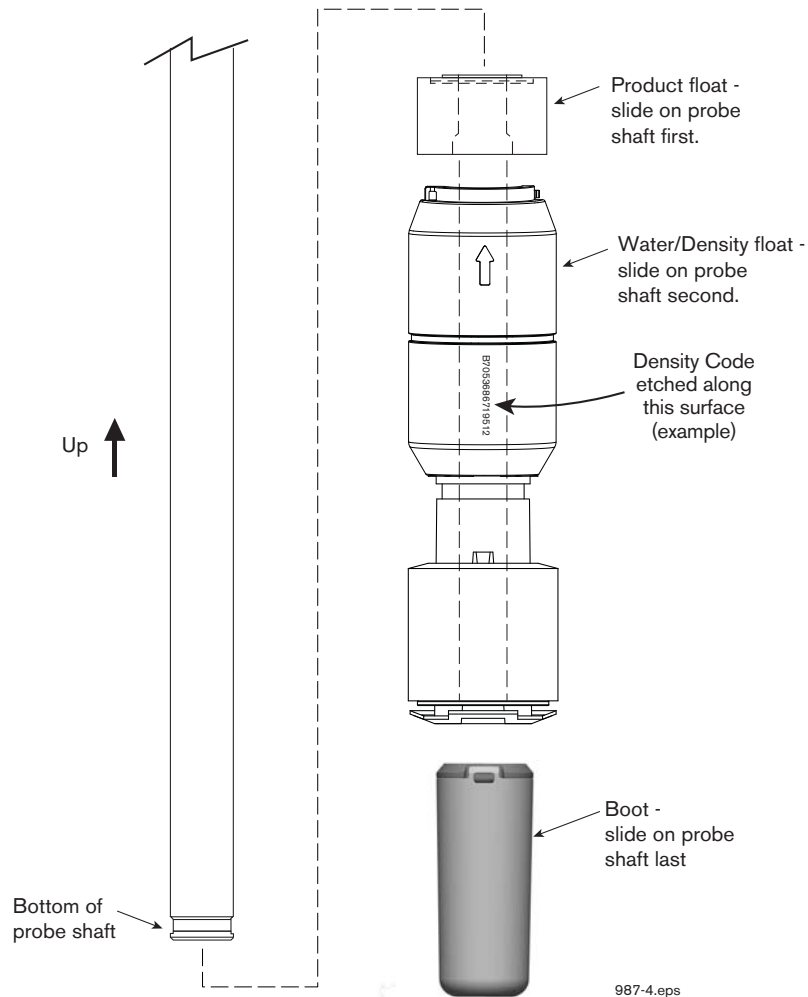

Figure 4. Example Installation of Density Probe Floats and Boot
All sizes of the Product and Water/Density Floats and the Boot are assembled on the probe shaft in the exact sequence and orientation shown in Figure 4.
1. Make a record of the float size and Density Code (see Figure 4) for each probe (you can record float data in Table 3). This information will be needed during console configuration.